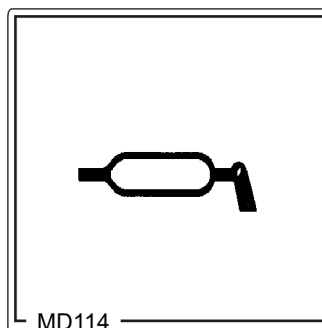

Fig. 37
- Install the transport safety bar (Fig. 37/3).
- Cenius-2: Lock the tines in position 2 with the positioning pins (Fig. 37/1).